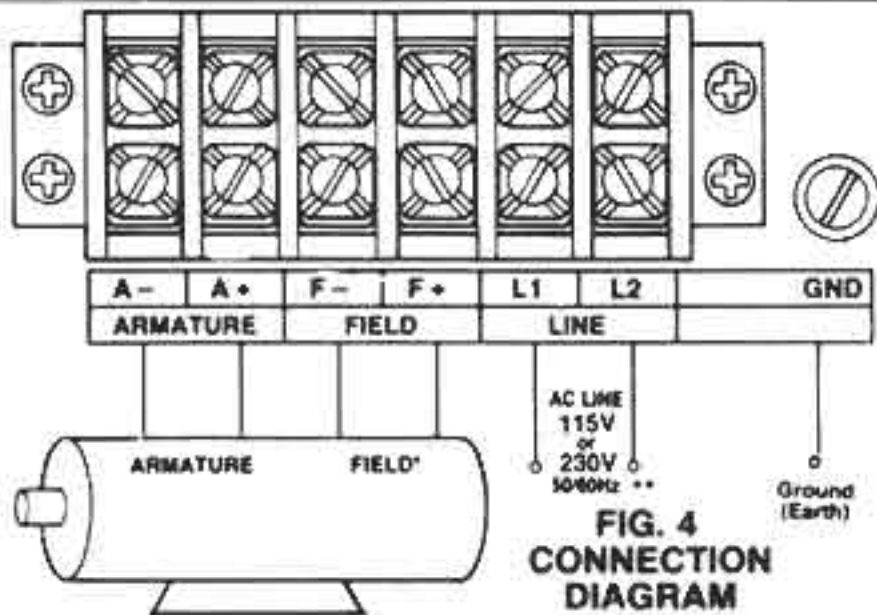

FIG. 4 CONNECTION DIAGRAM
- (1) Slide open front cover by removing two 6-32 screws.
- (2) Install Plug-In Horsepower Resistor[®] corresponding to motor voltage and horsepower. (See chart Table 3, page 3)
- (3) Set the Dual Voltage Switch to proper position "115" or "230" which corresponds to the nominal AC input line voltage 120 or 240 VAC.
- (4) Install proper Armature fuse according to Fuse Selection Chart. (Table 6, page 8)
- (5) Trimpots have been factory adjusted. If readjustment is required see section IV pages 9 & 10.
- (6) Install Auxiliary Heatsink if motor is larger than 3/4 HP on 120 VAC and 1-1/2 HP on 240 VAC. (Use (6) No. 10-32 screws)
C. Wiring. (See Fig. 4 for terminal arrangement and wiring information.)
- (1) Connect the Multi-Drive[™] to a standard 120 V or 240 V 50/60 Hz power source. [Be sure the DVS is set to the proper voltage "115" or "230" and motor voltage corresponds to the line voltage. (e.g. 90-130 VDC motor on 115-120 VAC and 180 VDC motor 230-240 VAC)]
- (2) Follow the recommended supply wire sizes as per Table 5. (For Stepdown operation see note on page 8.)
- (3) Follow the NEC and other appropriate electrical codes. **CAUTION:** Separate branch protection must be provided on 240 V circuits.
- (4) Replace front cover and the two 6-32 screws.